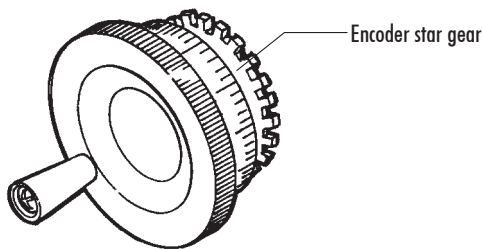

FIGURE 3—Check the encoder star gears for any molding imperfections.
4. Defects in the molding of the encoder star gears inside the encoder are a bit less likely but should be considered (see Figure 3). Remove the housing and make sure that the encoder star gear fits snugly on the handwheel and turns with it freely\*, isn't warped, doesn't have any molding flash in the slots, and has no debris trapped inside. The slots in the wheel should be sharp, square, and free of any wobble or runout as the axis rotates. If the wheel has minor defects or flash, it might be simple enough to deburr it with a small hobby knife or a jeweler's file. If the encoder star gear has excessive runout, e.g., wobble as it rotates, this could cause inconsistent readings. Contact Sherline for a replacement part.